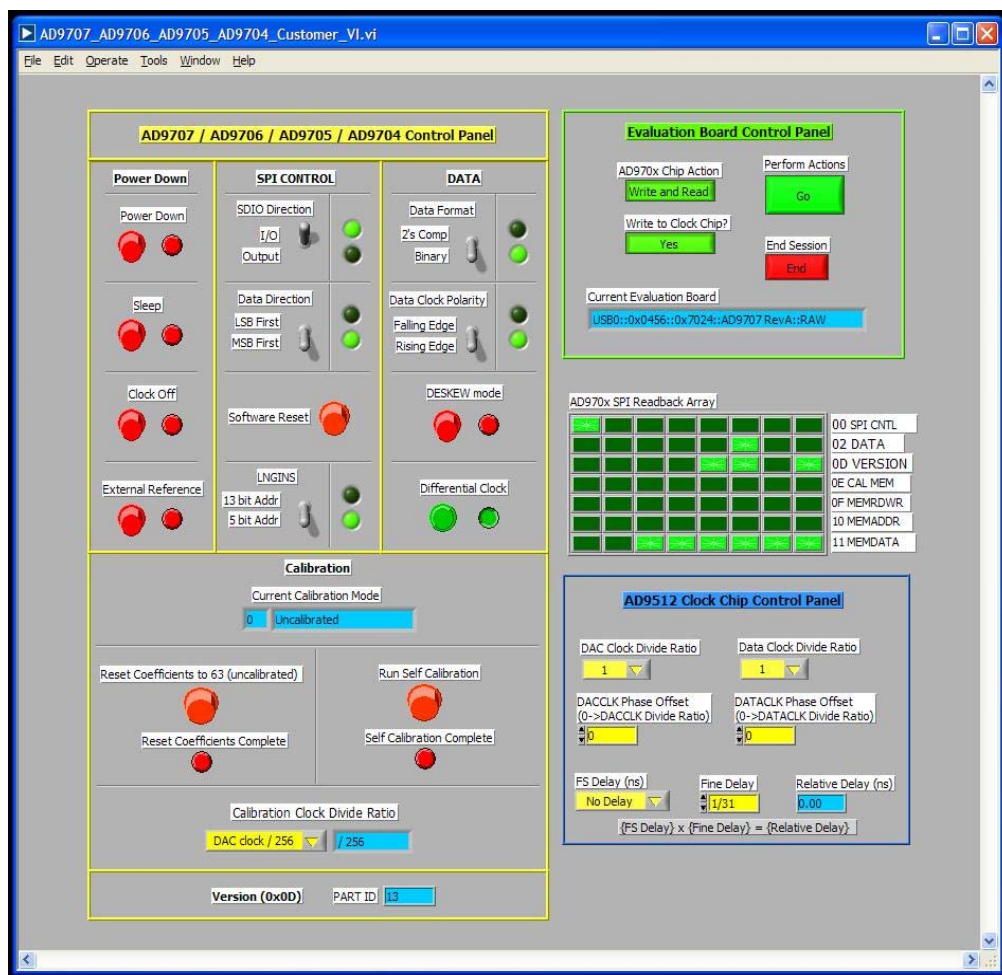

Figure 6: AD970x SPI evaluation software
5. Start the AD970x evaluation software control panel GUI and press the green GO button. The GUI display should look like Figure 6.